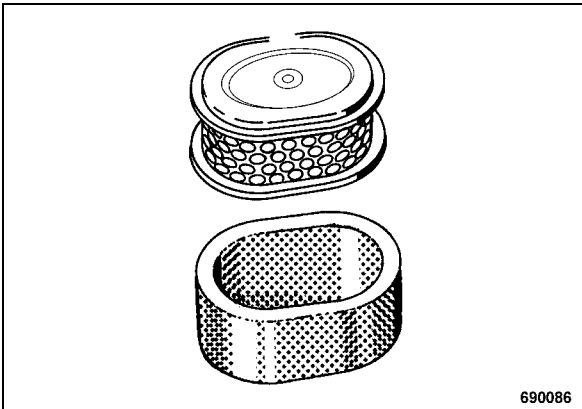

Fig. 58
- Pull the foam rubber insert over the paper element (Fig. 58).